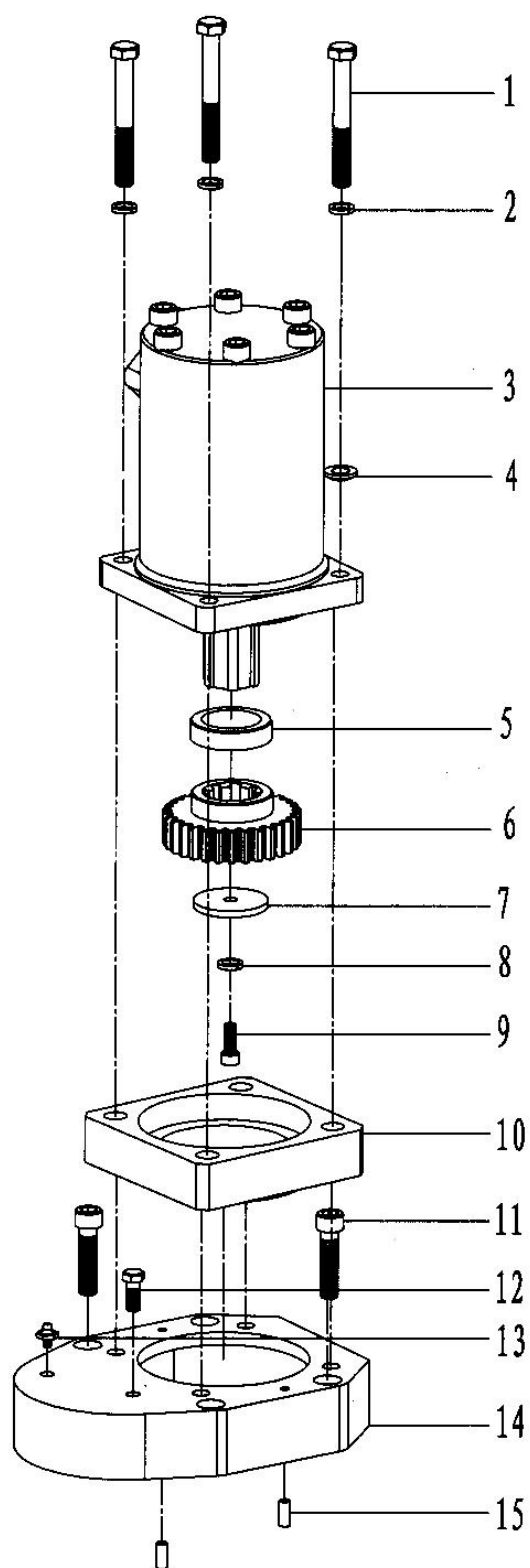

Fig. 14
7.1.7 Case body assembly(Fig.14, Table.9)